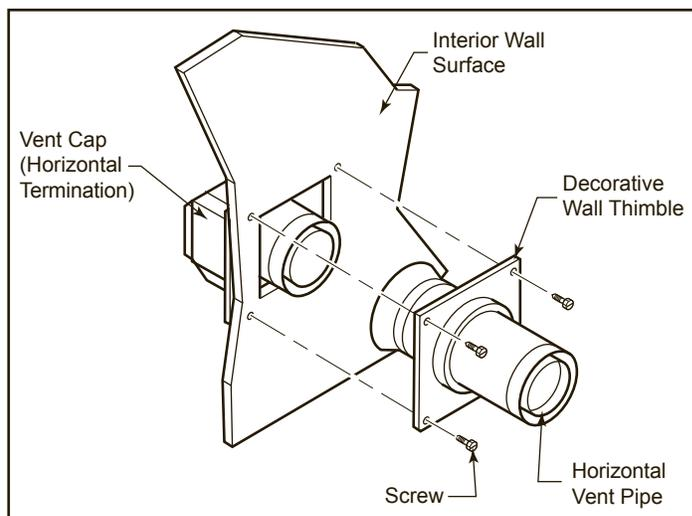

Figure 18 - Connect Vent Cap with Horizontal Vent Pipe
5. Slide the wall thimble over the vent pipe before connecting the horizontal run to the vent cap. Figure 18
7. Slide the wall thimble against the interior wall surface and attach with screws. Figure 18